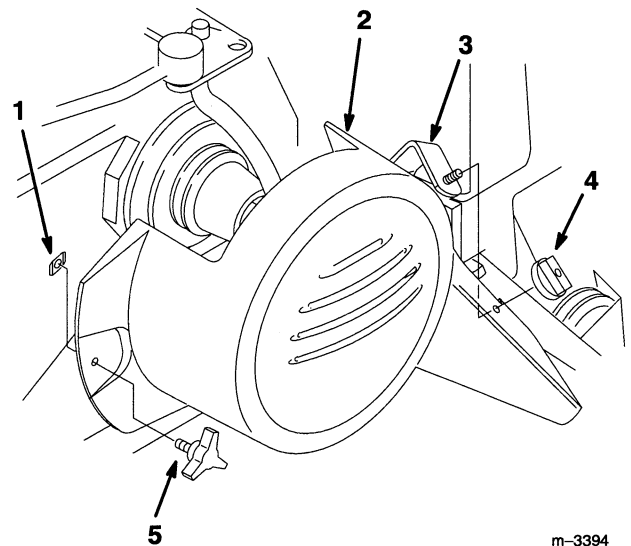

Figure 4
1. Install the belt cover over the power take-off (PTO) pulleys, and onto the 1/4"-20 stud on the belt cover bracket (Fig. 4).
2. Install and tighten the wing nut onto the 1/4"-20 stud on the belt cover bracket (Fig. 4).
3. Install and tighten the knob into the retainer nut on the belt guard (Fig. 4).